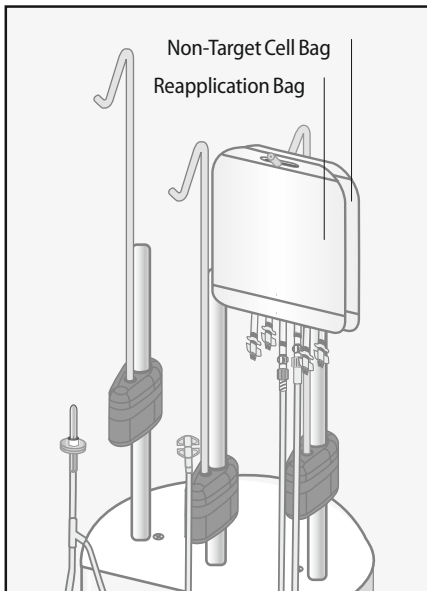

Figure 4-3.1: Attach Non-Target Cell Bag and Reapplication Bag to bag hanger
1. Attach the Non-Target Cell Bag and the Reapplication Bag to the right hand bag hanger on the instrument as shown (see Figure 4-3.1).